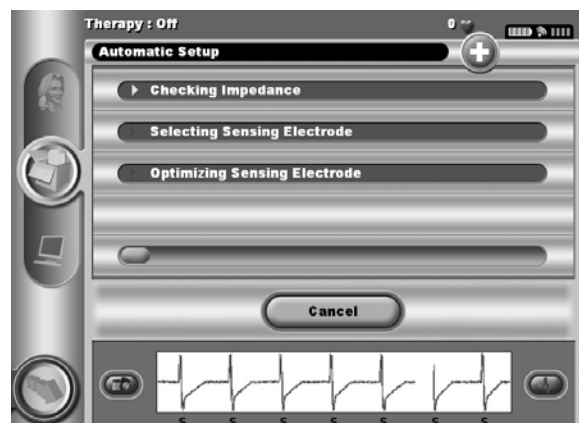

Figure 27: Measuring electrode impedance
- Perform the shock electrode integrity check (Figure 27) to measure electrode impedance. Normal sub-threshold impedance range is < 400 Ohms.